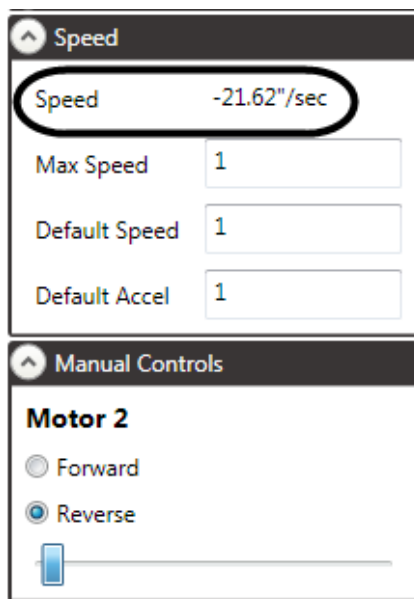

Figure 38
2. In the **Manual Controls** section of the **Motor Editing Pane**, use the manual controls to start moving in reverse as fast as you are comfortable. While the motor is moving, watch the **Speed** value in the **Speed** section of the **Motor Editing Pane** and mentally note how fast the motor is moving (Figure 38).